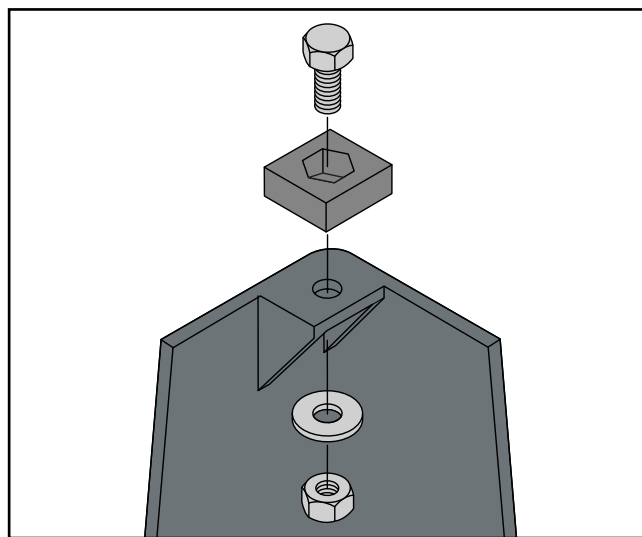

Figure 9. Installing the rubber feet.
1. Fasten the rubber feet to the leg bottoms using M10-1.5 x 25 hex bolts, 10MM flat washers and M10-1.5 hex nuts as shown in Figure 9.